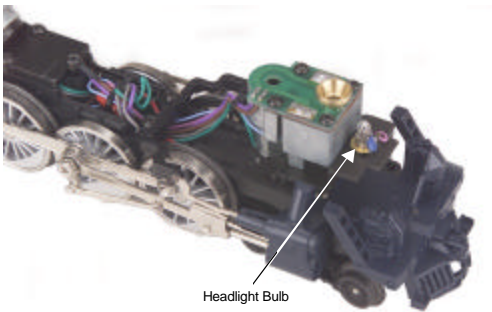

Figure 8
1. To replace the headlight in this model you will need to follow the disassembly instructions for greasing the engine in figure 5a on pg. 11. Once the boiler has been removed you can access the headlight and firebox lights (see figure 8 and 9).